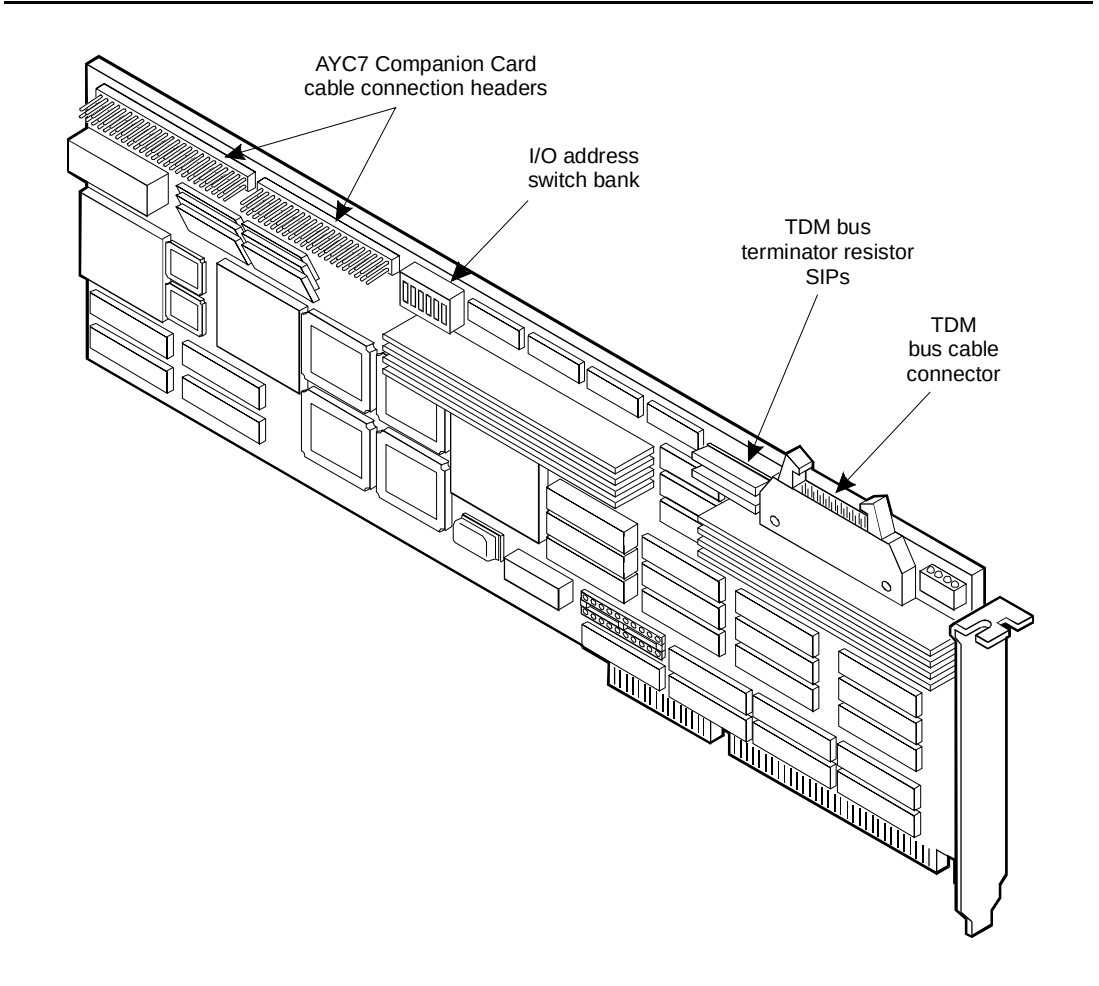

Figure 5-21. Signal Processor (AYC2C) or Text-to-Speech (AYC9) Circuit Card
- The AYC2C (Figure 5-21)
- The AYC9 (Figure 5-21)
Figure 5-21 shows the TTS (AYC9) circuit card.